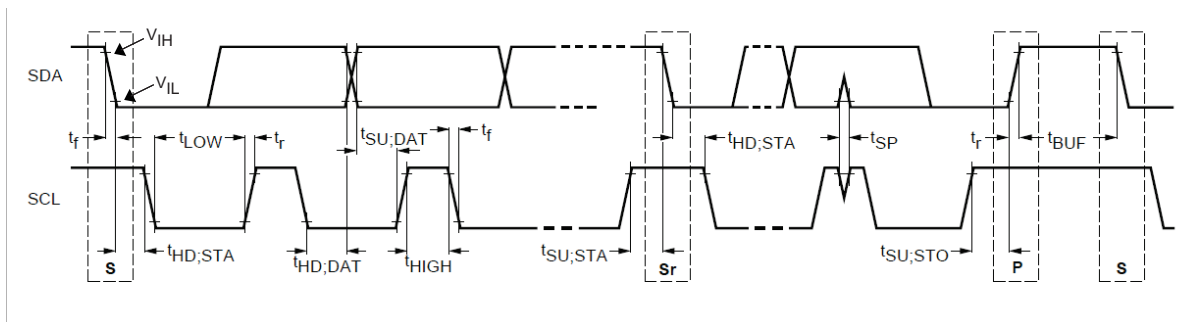

Figure 1. I²C Timing Definitions (reproduced from Phillips I²C spec Version 1.1)
(1) Ensured by design. Not production tested.
(2) Refer to Figure 1 below for I²C Timing Definitions
(3) Cb = capacitance of bus line in pF